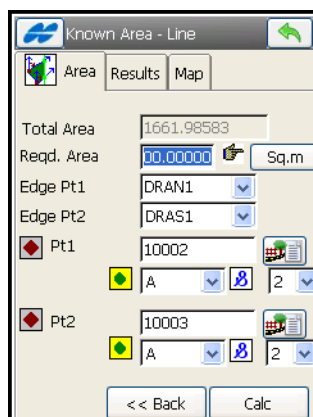

Figure 14-43. Line – Area Tab 2
- **Next** – opens the second screen of the **Area** tab (Figure 14-43).